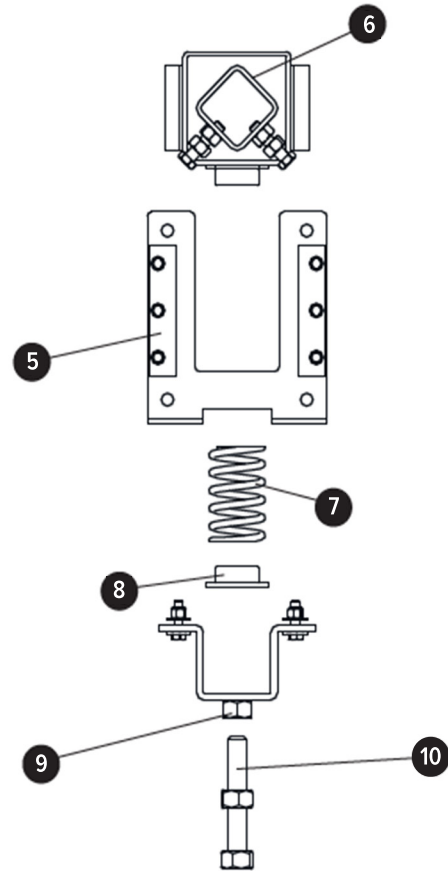

Figure 2. Spring-Schoc™ Tensioner Parts Diagram
- With the Mounting Brackets attached, now assemble the Spring-Shoc Tensioners as shown in Figure 2.